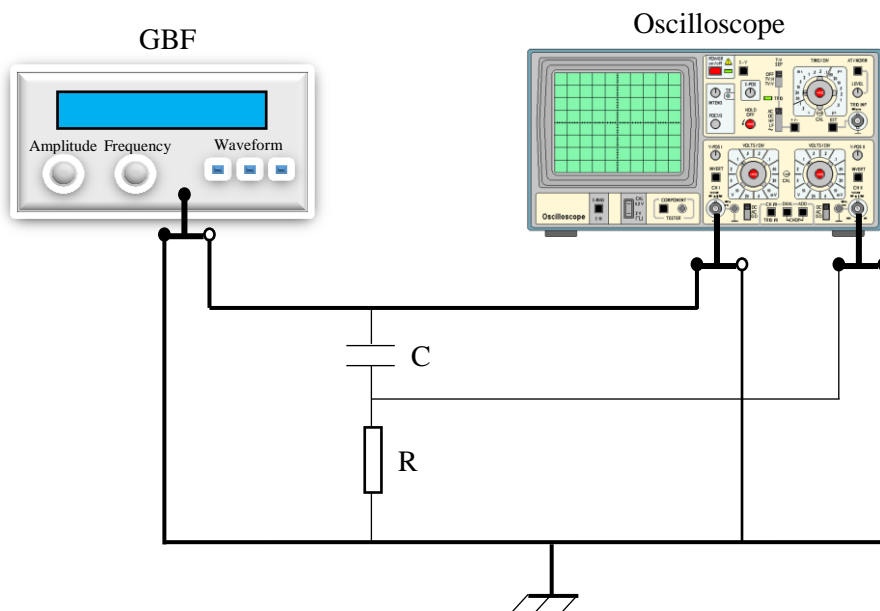

Figure 5.4. Diagram of the phase shift measurement setup.
- 1- Assemble the RC circuit as shown in Figure 5.4, using $R = 2\text{ k}\Omega$ and $C = 1\mu\text{F}$.